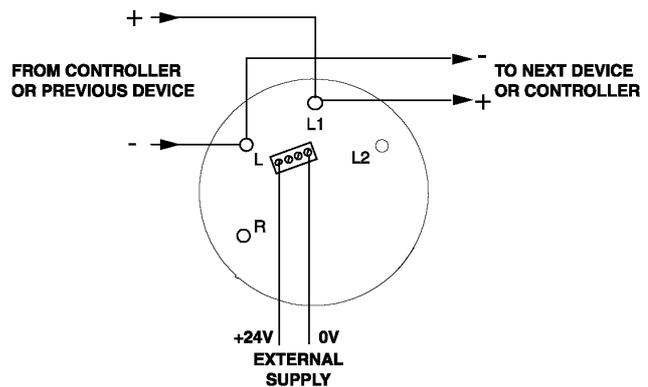

Fig. 3 Connections to 901SB Sounder
- Tone - using the 4-way DIL switch (Fig. 3 and Table 1 refer).
- Wire the sounder base as shown in Fig.3 ensuring correct polarity. Terminals 2 (+24V) and 3 (0V) may be used to carry the external supply to another device.